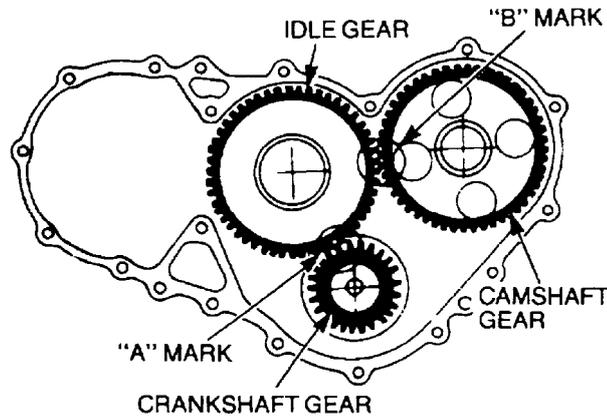

Figure 51 Aligning the Idle Gear Timing Marks
- zz.** Rotate the crankshaft to bring No 1 piston onto Top Dead Centre (TDC), which also brings the timing mark on the gear toward the idle gear shaft (Figure 51).
- aaa.** Rotate the camshaft to bring the timing mark on the gear toward the idle gear shaft (Figure 51).
- bbb.** Lubricate the idle gear and the idle gear shaft with clean engine oil and install the gear onto the idle shaft aligning the timing marks on the idle gear with the timing marks on both the crankshaft and camshaft gears (Figure 51). If necessary, remove the idle gear and rotate the camshaft to align the timing marks.